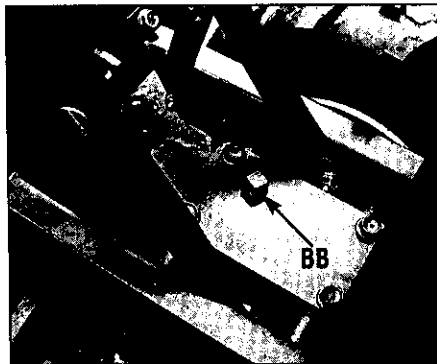

Figure 2-8: Remove gear oil fill plug.
2. Remove the gear oil fill plug (BB, Figure 2-8) from the transmission housing and look into the filler hole.